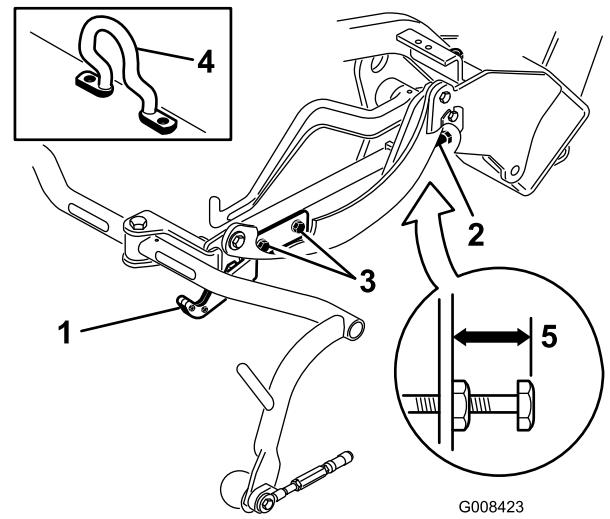
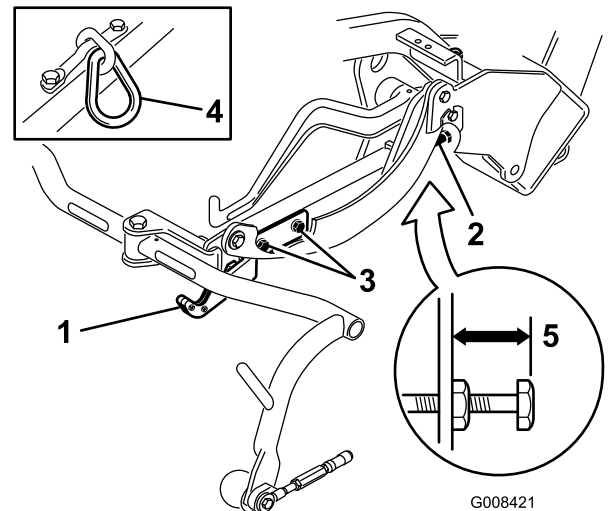
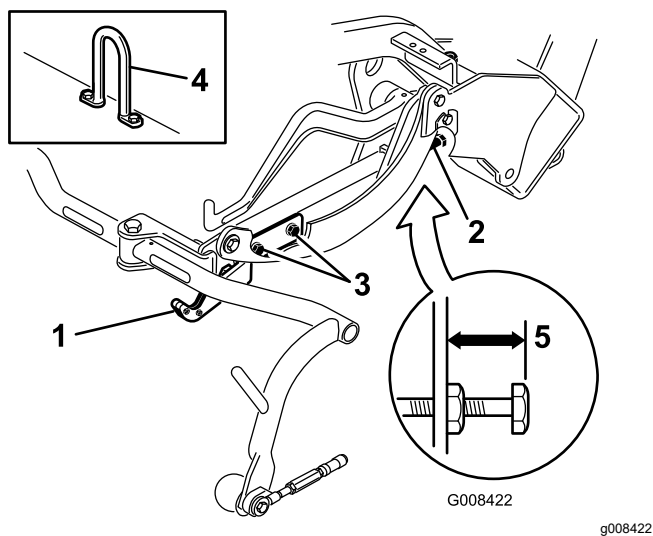

Figure 10
Figure 11
Figure 12
3. On cutting units equipped with a chain link or a straight lift hook (Figure 11 and Figure 12 insets), verify that the distance from the top of the carrier frame adjusting screw to the back of the carrier frame is 22 mm (7/8 inch). If the distance is not 22 mm (7/8 inch), proceed to step 4. If the cutting unit is equipped with an offset lift link (Figure 10), proceed to the next step.
Check the transport height (Figure 11 and Figure 12) and adjust it if required.
2. On cutting units equipped with an offset lift hook (Figure 10 inset), verify that the distance from the top of the carrier frame adjusting screw to the back of the carrier frame is 25 mm (1 inch). If the distance is not 25 mm (1 inch), proceed to step 4.
4. Loosen the transport plate mounting screws (Figure 11, Figure 12, and Figure 10).
7. If the carrier frames are not at the same height, loosen the jam nut on the carrier frame adjusting screw (Figure 10, Figure 11, and Figure 12). Rotate the screw outward to raise and inward to lower. Tighten the jam nut after you obtain the proper height.